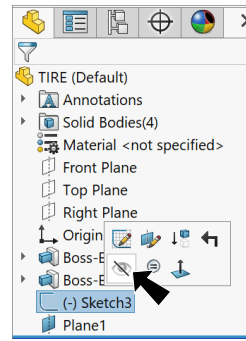

Fig. 22
Step 1. **Hide Sketch3** . To hide, click **Sketch3**  in the Feature Manager and **Hide**  on the context toolbar, **Fig. 22**.